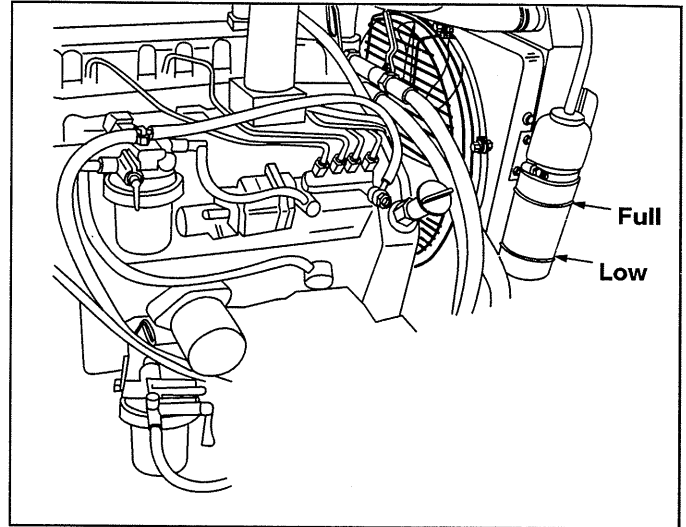

Figure 4-7. Checking Coolant Level
2. Check the coolant level in the expansion reservoir (Figure 4-7).